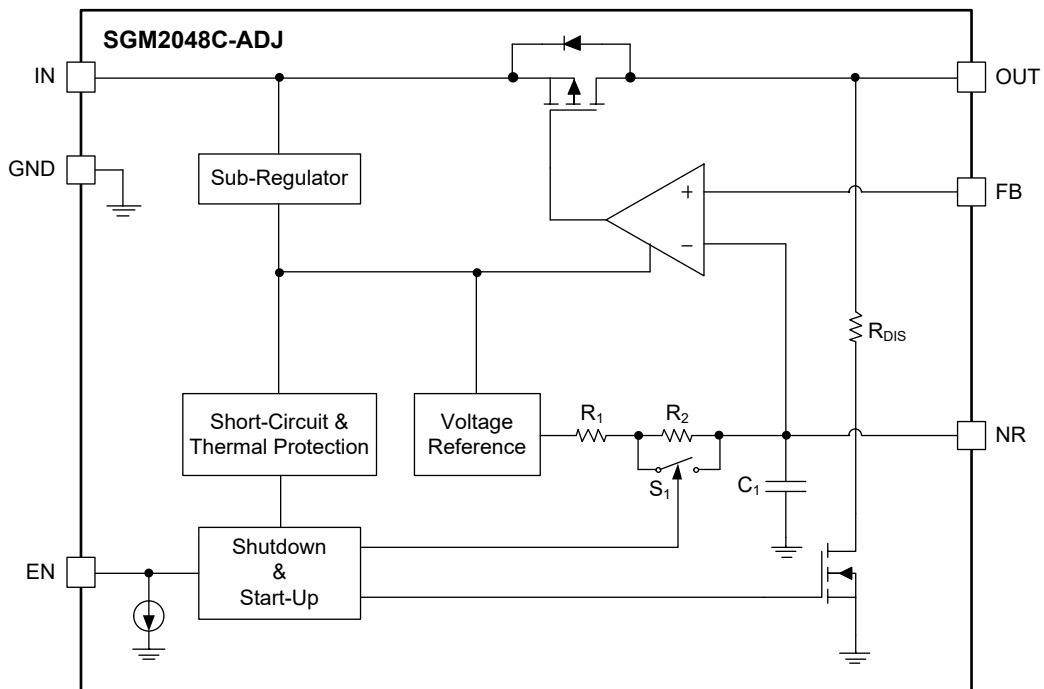
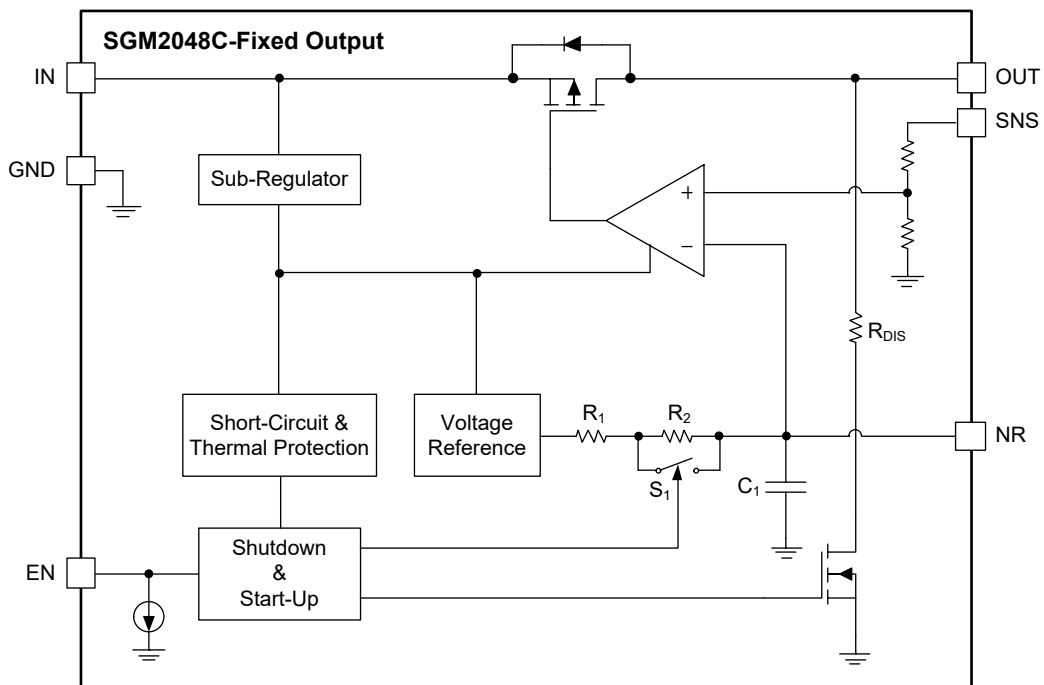

Figure 2. Adjustable Output Voltage Internal Block Diagram
Figure 3. Fixed Output Voltage Internal Block Diagram
In Figure 2 and Figure 3, a low-pass (RC) filter is used to reduce the noise of bandgap voltage reference, the external C_{NR} and the resistance controlled by the quick-start circuit consists of this filter. The switch for quick-start is closed at start-up, C_{NR} will be charged by V_{REF} circuit and there is only 33k Ω resistance between bandgap circuit output and the NR pin. It is about 2ms after the device is enabled that the switch for quick-start will be turned off, the resistance between the NR pin and bandgap circuit output will be changed to about 265k Ω . This low-pass filter helps LDO achieve very good noise-reduction after start-up due to resistance is changed from 33k Ω to 265k Ω . Generally, low leakage ceramic capacitor is used and the value of C_{NR} is larger than 10nF. Larger C_{NR} is better to reduce the noise of LDO, but it prolongs the start-up time of LDO, the value of C_{NR} must be the trade-off between noise and start-up time.